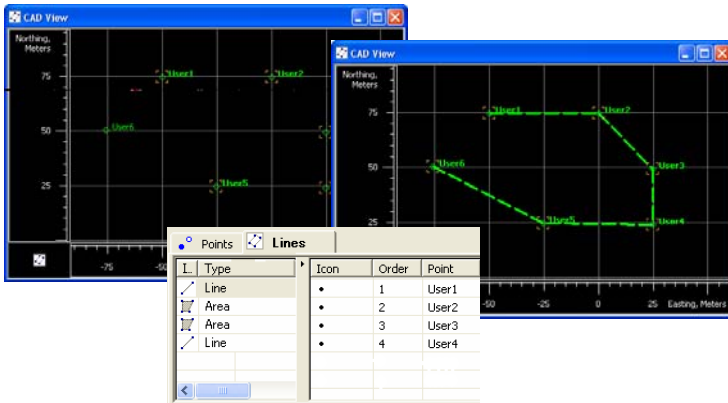

Figure 5-32. Connecting of Selected Points to Line
- Spectrum Survey Office allows connecting selected points into the line. Click the **Add Line** button in the Toolbar and select the desired points in the CAD View or *Points* tab. Then the line will be created that connects the points in the order of point numbers/names (Figure 5-32 on page 5-24).